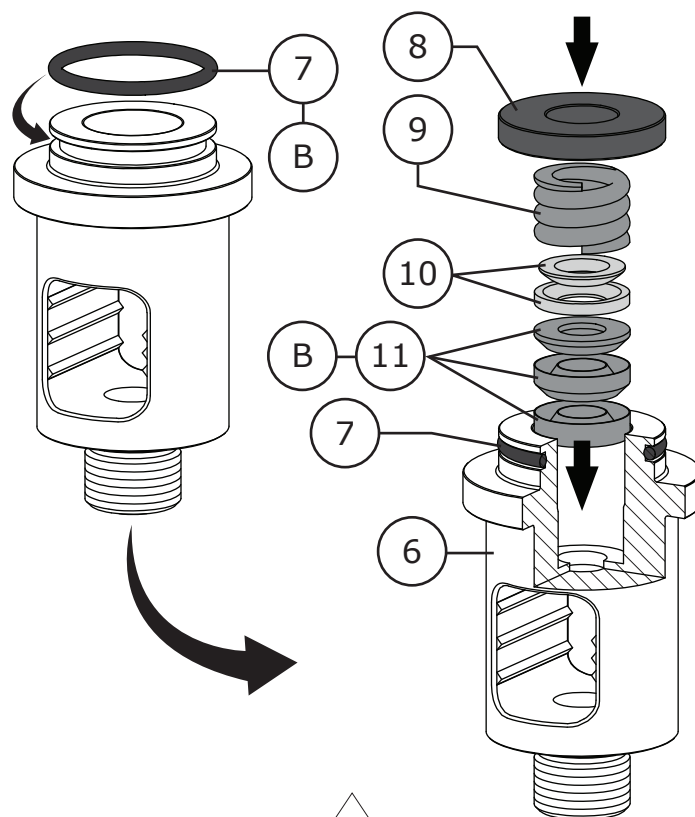

Figure 35 Bonnet Assembly
- 5 Install spherical washer (Key 10), spring (Key 9), and bonnet spacer (Key 8) as shown in Figure 35. **NOTE:** The bonnet spacer will just sit on top of the bonnet (Key 6) and will slide off if not careful.